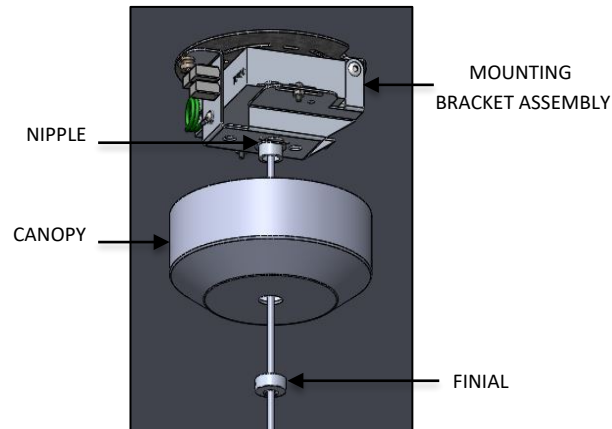

FIG. 15 – FINIAL INSTALLATION
10. Raise CANOPY and secure to ceiling by threading the FINIAL to the NIPPLE (available in MOUNTING BRACKET ASSEMBLY) as shown below in FIG. 15.